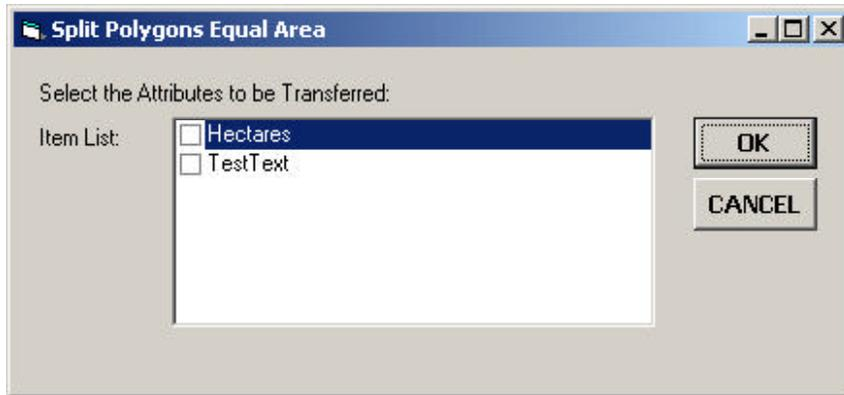

Figure 7
Having clicked at the *OK* button, the program will either begin the process of subdividing the polygon(s) or present a list dialog box similar to that shown in Figure 7.
► **13** Click in the square to the left of the attribute(s) to be transferred, see Figure 7. A check mark in the square denotes that the attribute is to be transferred to the new polygons.